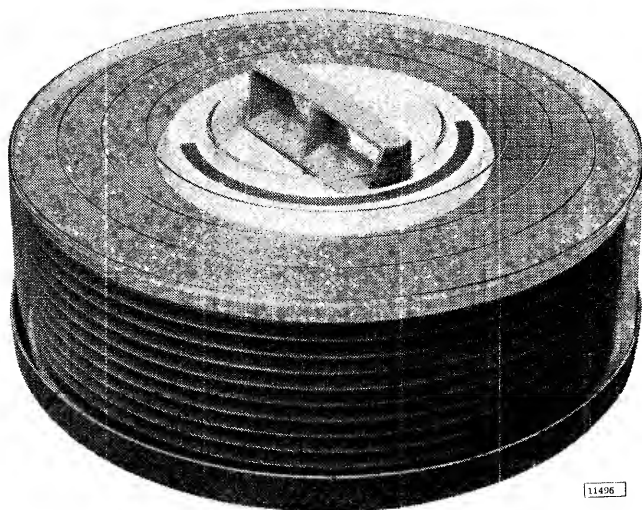

Figure 1. IBM 2316 Disk Pack
1. IBM 2316 Disk Pack—11 stacked disks providing 20 recording surfaces mounted on a central hub (Figure 1).